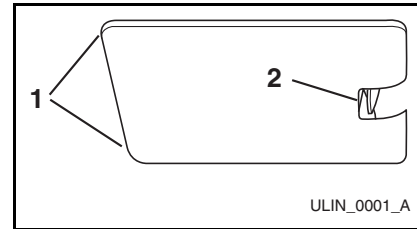

Figure 27
1. Grasp the edges of the light housing lens (**Figure 27, 1**) opposite the exposed tab and gently push the lens toward the tab (**Figure 27, 2**).
2. Pull the edge of the lens down (**Figure 27, 1**) and swing it out of the light housing.